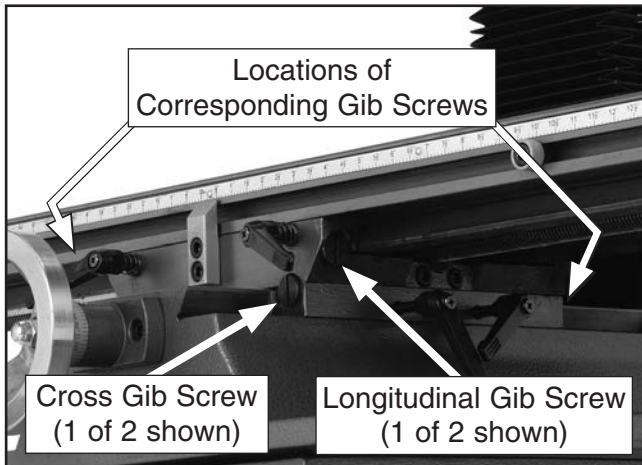

Figure 55. Table gib adjustment screw locations.
2. Loosen the table travel locks (**Figure 55**).
3. Loosen or tighten the front and rear gib screws (**Figure 55**) in an alternating manner to adjust the cross travel gib.